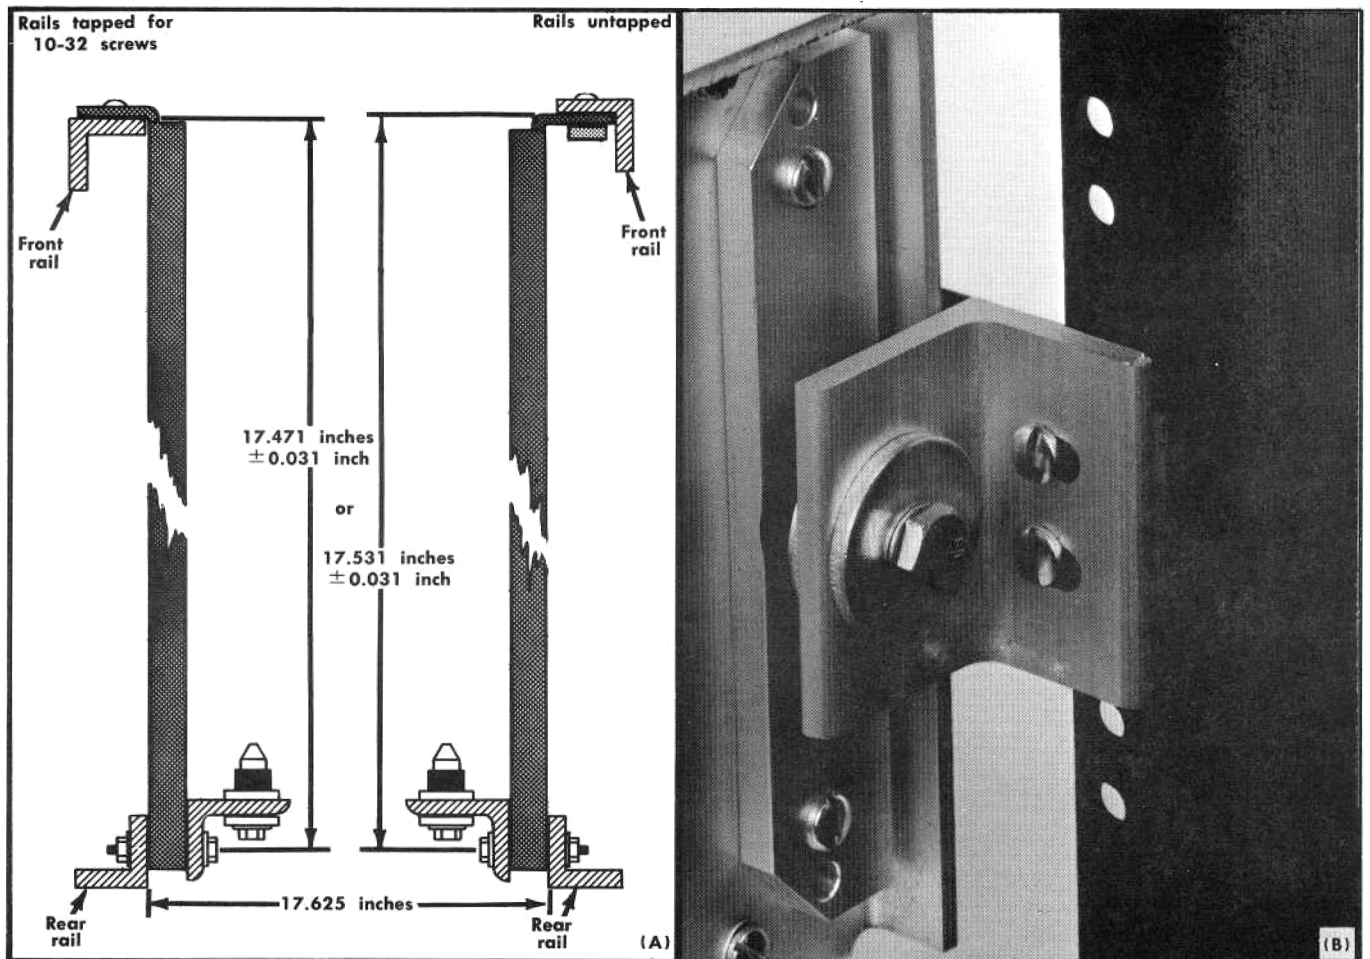

Fig. 6-5. Supporting the rear of the stationary sections: (A) Dimensions necessary; (B) Completed installation.
The mounting flanges of the stationary sections may be mounted in front of or behind the front rails of the rack, depending on the type of rack. If the front rails of the rack are tapped for 10-32 screws, the mounting flanges are placed in front of the rails. If the front rails of the rack are not tapped for 10-32 screws, the mounting flanges are placed behind the front rail and a bar nut is used. Fig. 6-5 shows these methods of mounting the stationary sections.
1. Select the proper front-rail mounting holes for the stationary section using the measurements shown in Fig. 6-5.